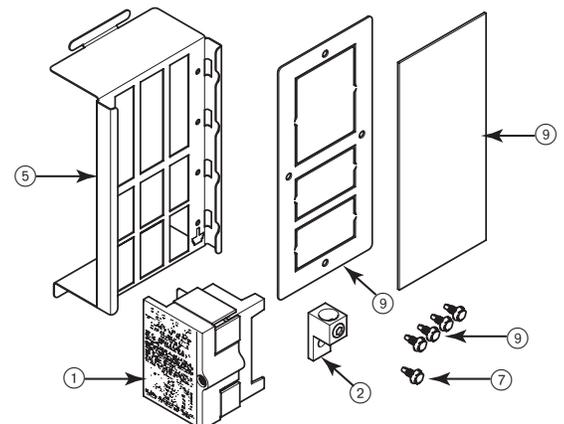

FIGURE 1
**KIT COMPONENTS** — Refer to Figure 1 for part identification.